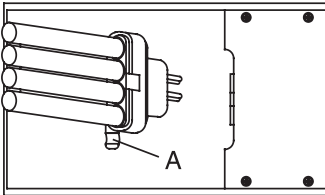

FIG 2
7. Remove the 27 W Natural Spectrum® bulb from the packaging and carefully insert it into the socket as demonstrated in Figure 2. Be sure to hold the bulb by the base and ensure it is fully inserted into the socket and clipped into the metal clip on both sides of bulb.